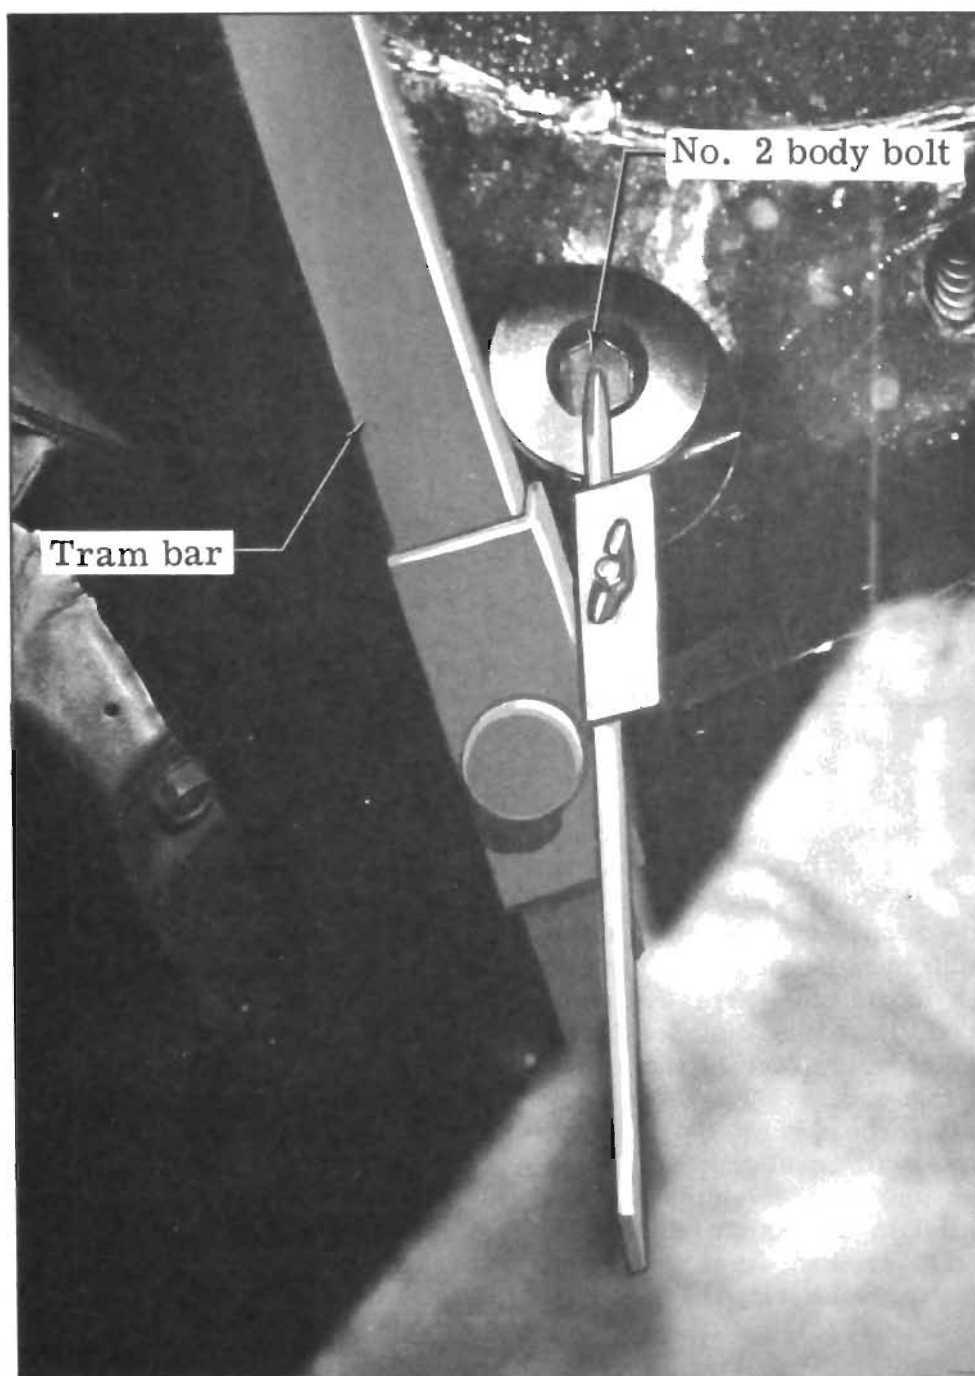

Figure 12-19—Measuring with Tram Bar to a Typical
2. All body bolts are accessible through openings in the frame on the Special and Skylark Series. The center of these bolt heads serves as accurate reference points, and it is not necessary to establish reference points. Figure 12-19 and frame layouts 12-20 and 12-21 show location of these reference points.